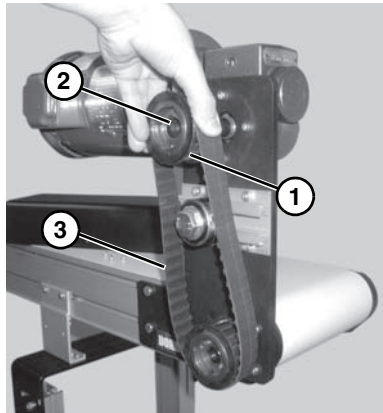

Figure 17
*If drive pulley (**Figure 17, item 1**) is replaced, wrap timing belt around drive pulley and complete step 3.*
5. Remove drive pulley (**Figure 17, item 1**), taper hub assembly (**Figure 17, item 2**), and timing belt (**Figure 17, item 3**).
*Drive pulley (**Figure 17, item 1**) is removed. Wrap timing belt around drive pulley and complete step 13.*